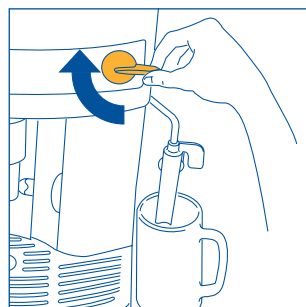

Fig.6
4. After few seconds, a little water will release from the milk frother. When the cup is 1/3 full, turn the steam knob half a turn clockwise (Fig.6) to terminate the flow of water.
- To stop the flow of hot water, turn the knob all the way clockwise (Fig. 6) and return the cappuccino frother to the original position towards the center of the machine.
- Then interrupt steam delivery by rotating the knob clockwise as far as it will go (fig. 6).
- Once the desired temperature has been reached, stop the steam by turning the steam knob clockwise until it stops (Fig. 6).